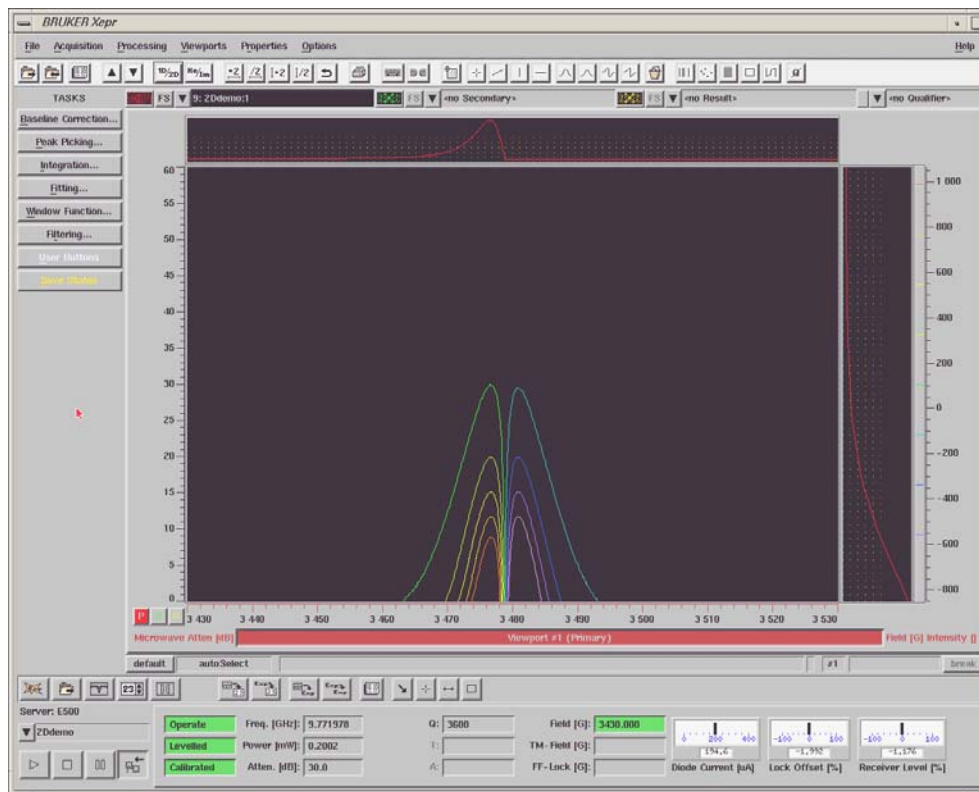

Figure 5-53 A contour plot of a 2D dataset.
11. **Display a 2D dataset as a Contour Plot.** You may need to display the 2D dataset as a contour plot. Simply click the Property menu of the Primary section and select contour from the Display type list. The 2D dataset will be displayed as a contour plot. (See Figure 5-53.)